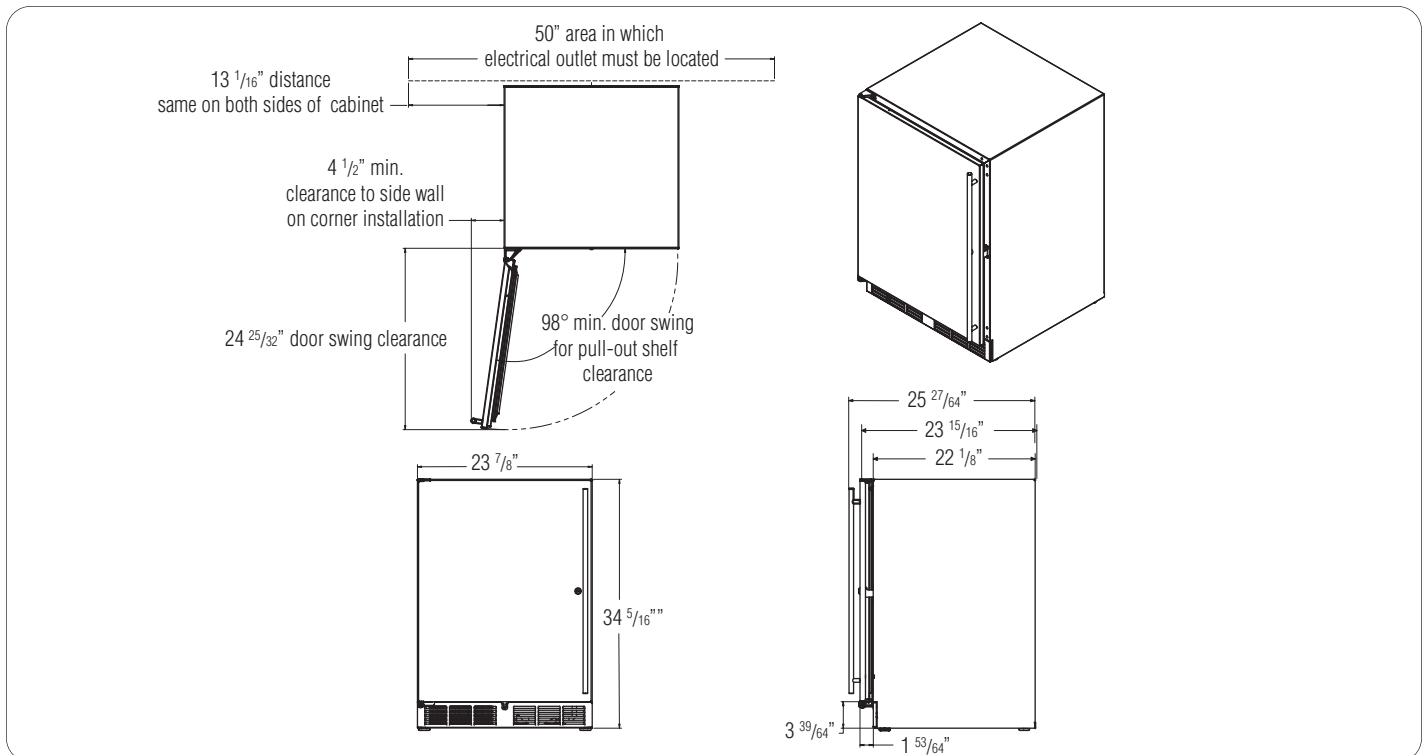

Figure 1. Dimensions
Make sure the installation opening is properly prepared. Refer to Figure 1 for space dimensions.
**IMPORTANT:** For a cabinet door to operate properly, the door must open a minimum of 100° (see Figure 1). Use a minimum 4-1/2" filler in corner installations to ensure a 100° opening. Allow enough clearance in front of the unit for full door swing or shelf pull-out.